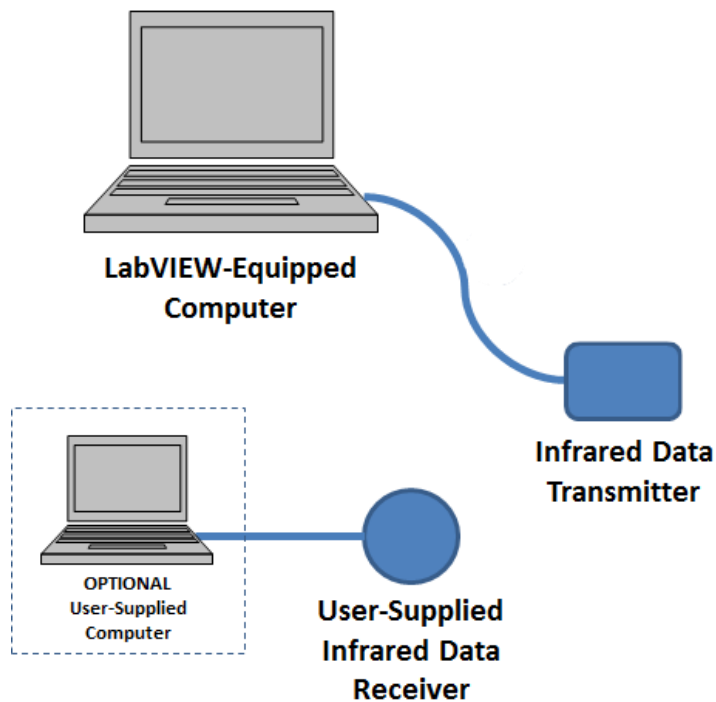

FIGURE 4-1: REQUIRED HARDWARE
Figure 4-1 shows the hardware setup, consisting an infrared data transmitter with a USB cable, and a LabVIEW-equipped computer.
STEP 1	Insert the infrared data transmitter’s USB plug into an available USB port on the LabVIEW-equipped computer - see Figure 4-1.